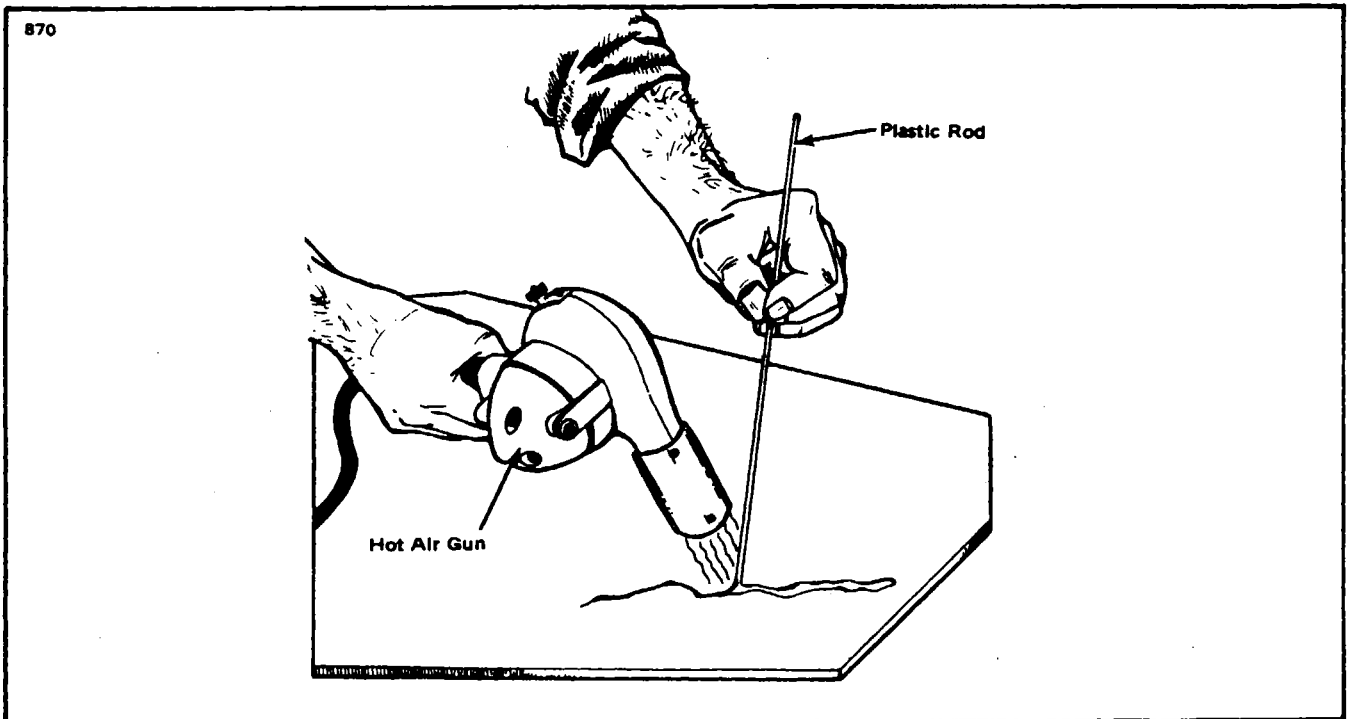

Figure 4-13. Welding Repair Method.
10. This welding method requires a hot air gun and ABS rods, to weld, the gun should be held to direct the flow of hot air into the fusion (repair) zone, heating the damaged area and rod simultaneously. The gun should be moved continuously in a fanning motion to prevent discoloration of the material. Pressure must be maintained on the rod to insure good adhesion. (Refer to Figure 4-13.)